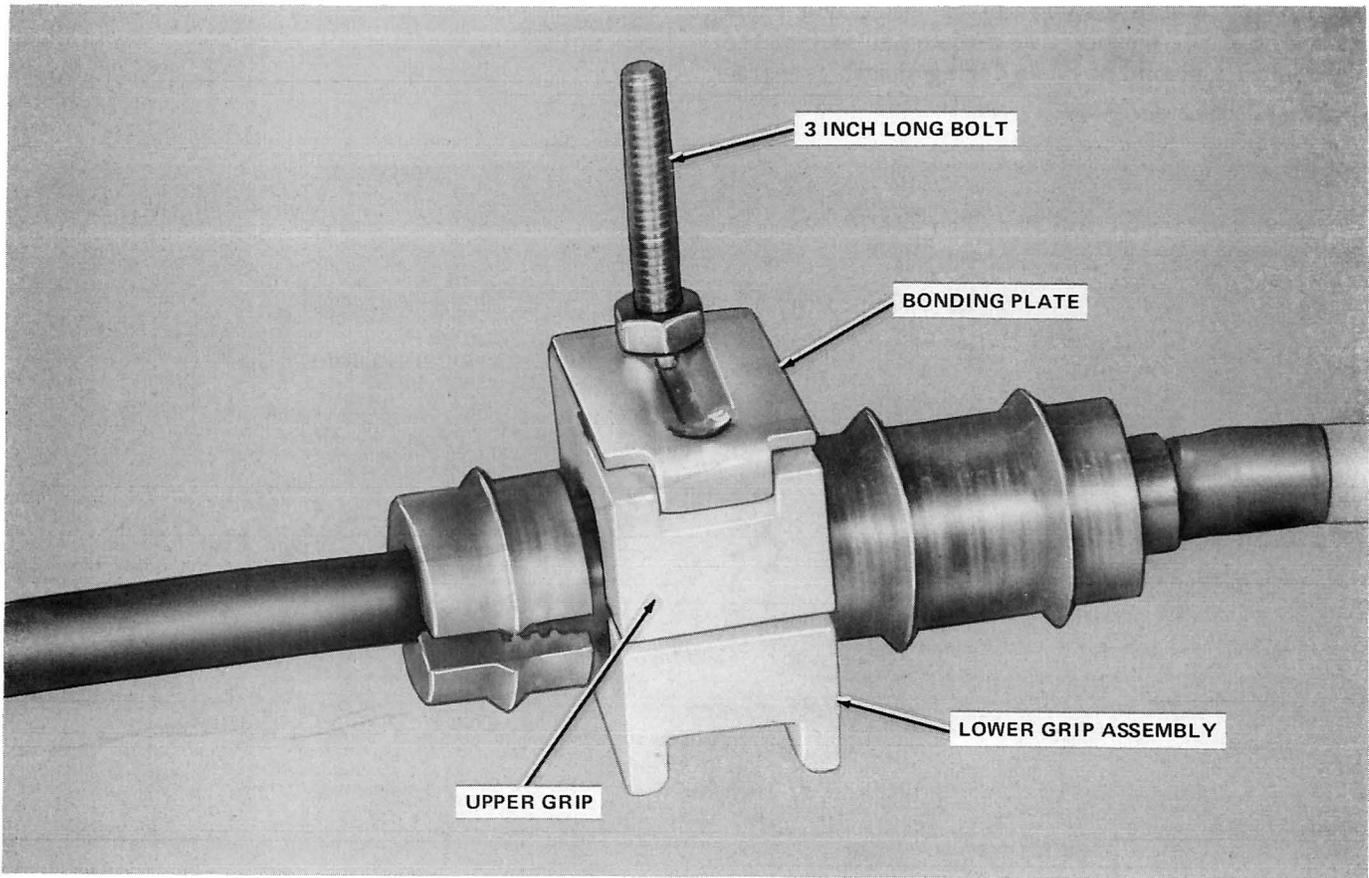

Fig. 97—Installing Upper Grip and Bonding Plate
12.04 Install the upper grip and bond plate as outlined in Part 4. (See Fig. 97.)